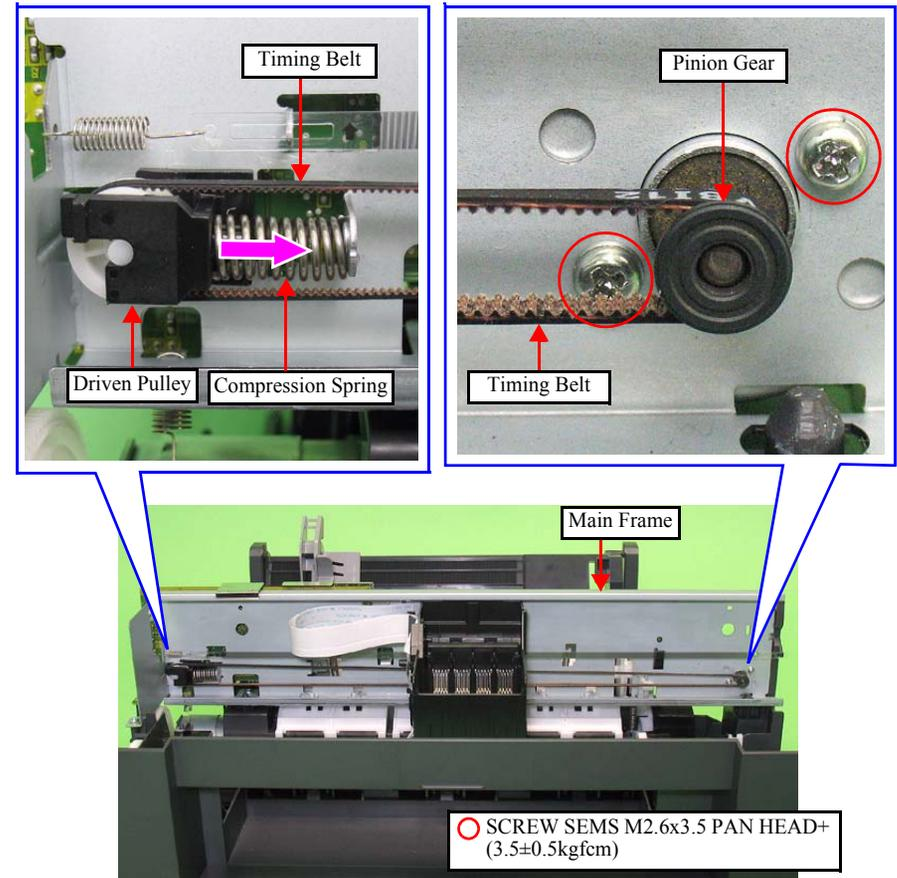

Figure 4-47. Removing the CR Motor (2)
2. Attach the Timing Belt to the Driven Pulley with toothed side facing inward. (See Fig.4-47.)
3. Install the Compression Spring between the protrusion of the Driven Pulley and that of the Main Frame. (See Fig.4-47.)
4. Slide the Driven Pulley to the CR Motor (in the direction of the arrow) taking care not to let the Timing Belt come off, and install the Timing Belt to the Pinion Gear of the CR Motor. (See Fig.4-47.)